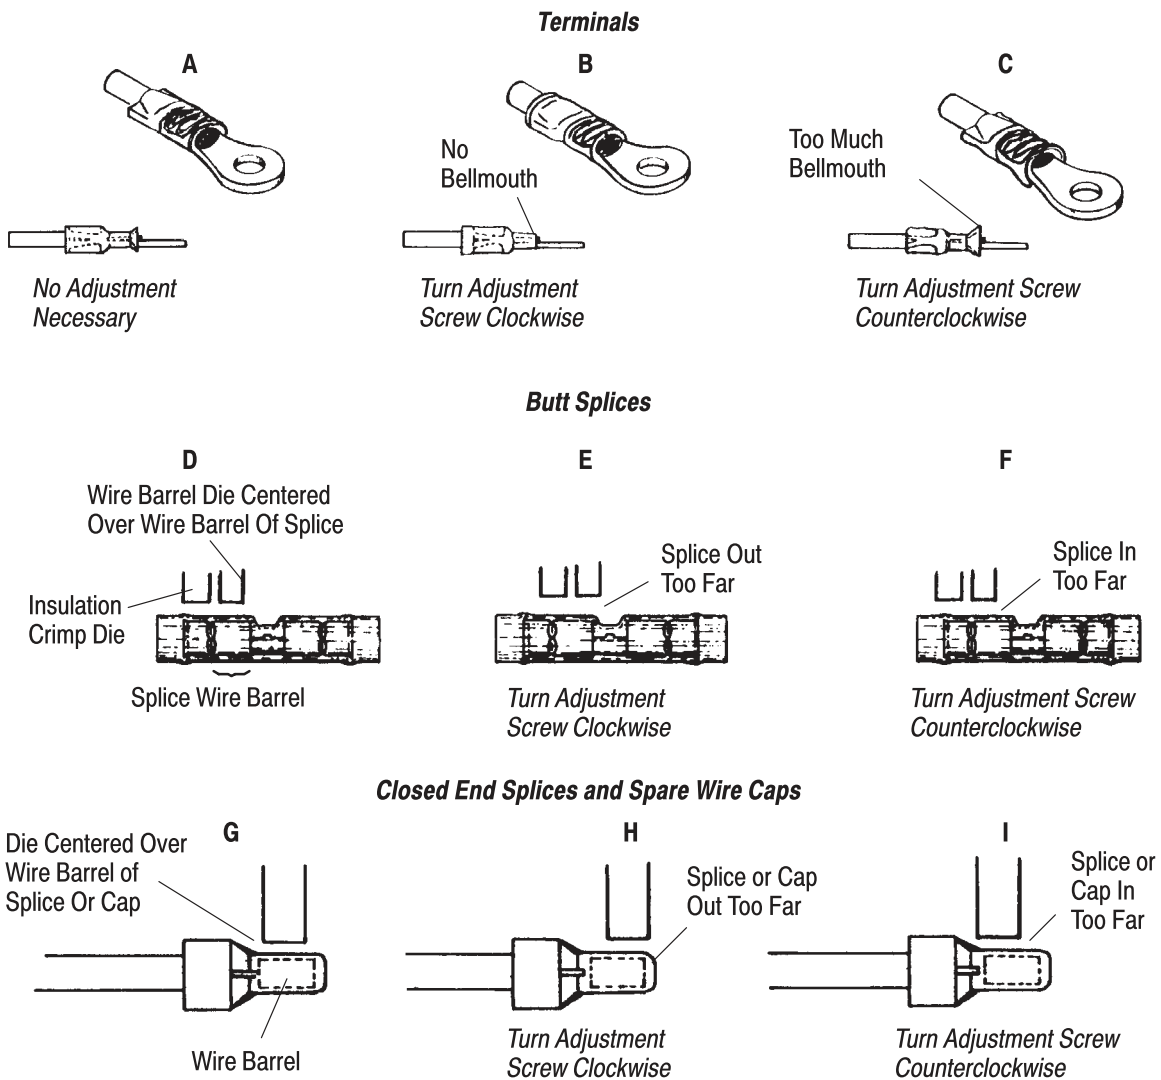

Figure 20
7.4. Crimp Location Adjustment (Figure 20)
Periodically, and after each change of dies, inspect the product for correct crimp location. Correct and incorrect crimp locations are illustrated in Figure 20. If adjustment is necessary, perform the following adjustment.